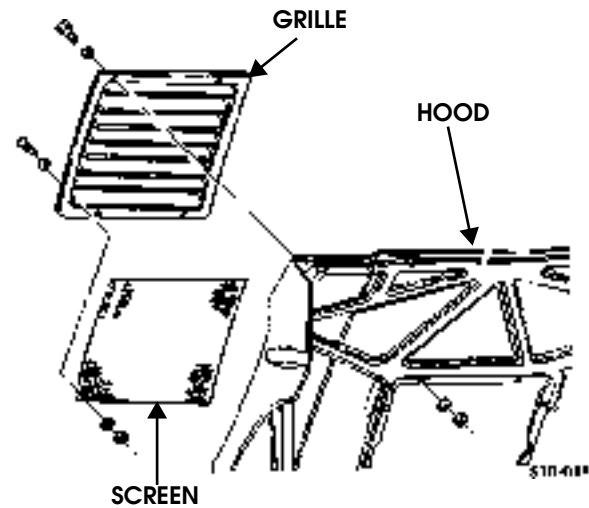

Figure 10-91: Grille and Screen Replacement
1. Remove six locknuts, washers, bolts, washers, and grille from hood (Figure 10-91).
1. Secure screen to grille with six washers, screws, washers, and locknuts. Tighten locknuts to 6 lb-ft (8 N•m) (Figure 10-91).